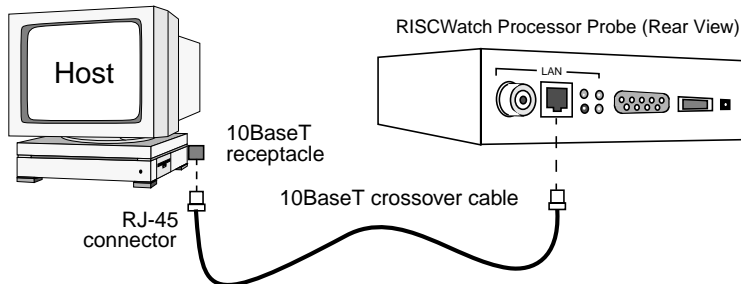

Figure 2-6. 10BaseT Crossover Connection
- c. For 10BaseT Ethernet, the connection can be made in two ways. If the connection is to be used exclusively between the host and the evaluation board (a 10BaseT point-to-point connection), a crossover cable must be used to connect the two nodes (see Appendix A for a diagram of the wiring for a 10BaseT crossover cable). Figure 2-6 shows a point-to-point Ethernet connection using a 10BaseT crossover cable: